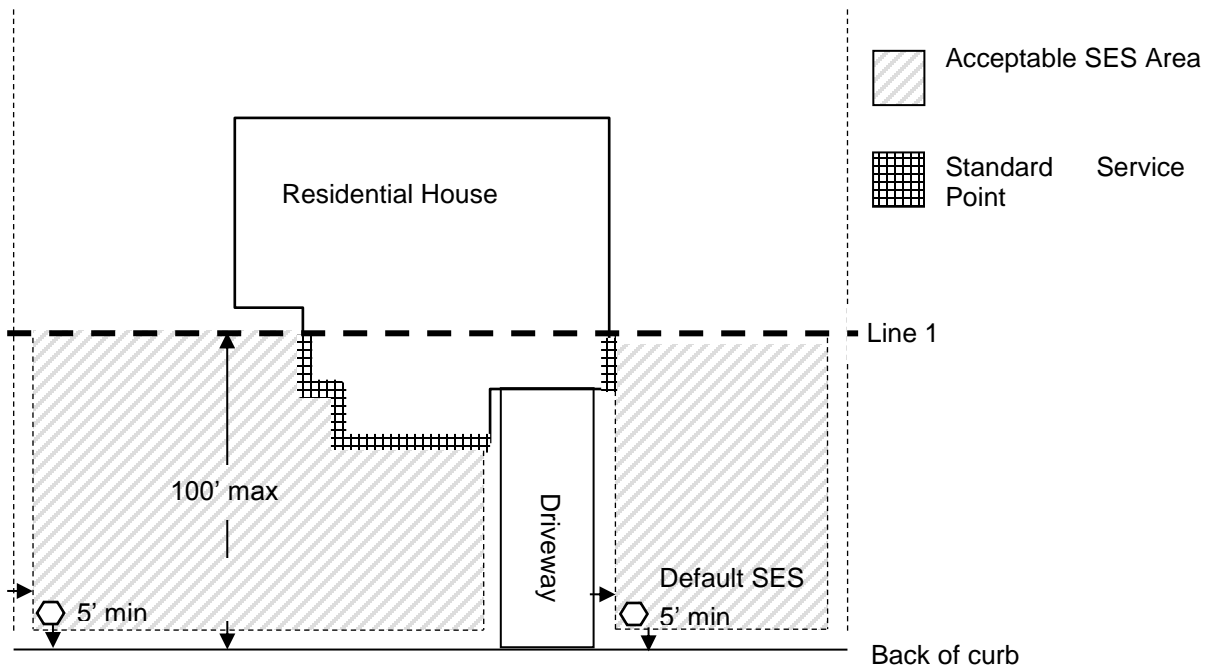

Figure 1. Locating the Standard Service Point
- 2.6 *Acceptable SES Area:* An area where a SES must be placed if the electric meter is not located on the wall of the residential house. See area indicated in Figures 1 - 4.
- 4.3 If the Standard Service Point and Alternative Service Point are not used for the meter location, an SES must be placed in the **Acceptable SES Area**. The default location for an SES must be 5' behind curb, 5' from existing driveway, and 5' from lot lines. See Figure 1.